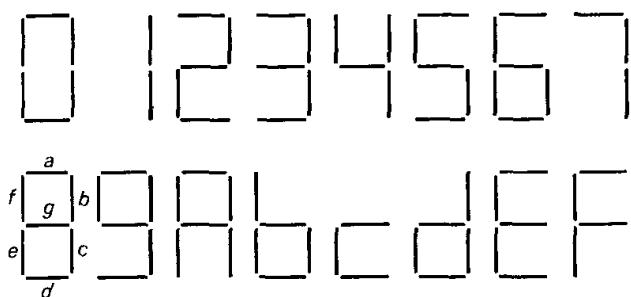

Figure 8.76. 7-segment display codes.
The inputs are the individual segment signals, which are always labeled *a*–*g*; see Figure 8.76, which also shows how the digits A–F are represented with 7-segment displays. Note that it is possible to represent 9 and C in two ways, both of which should be correctly recognized by our logic. For the PAL, we choose a 16L8,
Figure 8.77 is the input to CUPL. We assigned the (positive-true) segment drive signals *a*–*g* as inputs, and the (negative-true) hexadecimal bits DO–D3 as outputs. CUPL lets you define intermediate variables that can be used in later expressions; in this case it is convenient to define the obvious variables zero through *hexf*, the possible displayed digits in terms of the segment inputs. These are simply large product (AND) terms of the input segment variables, which you can read from the digit shapes in Figure 8.76. Finally, each binary output bit is written as the sum (OR) of the digit variables in which that bit is set. We've used negative-true levels because the 16L8 is an AND-NOR array, thus minimizing logic. This completes the logic specification to CUPL.